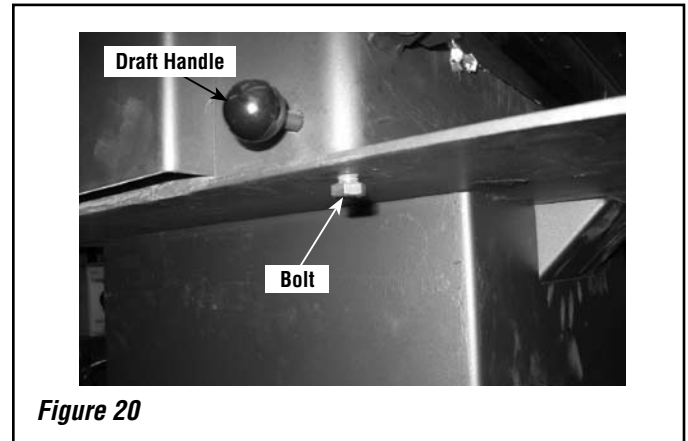

Figure 20
Step 6. Locate the 3/8" diameter x 1/2" long bolt on the bottom of the firebox near the draft handle. Using a 9/16" wrench or socket loosen this bolt but do not remove from threaded hole. See **Figure 20**. **Note:** This bolt was holding the stoves shipping legs on the stove and should have been reinstalled with the other three bolts that were holding the shipping legs on the stove per the pedestal instructions.